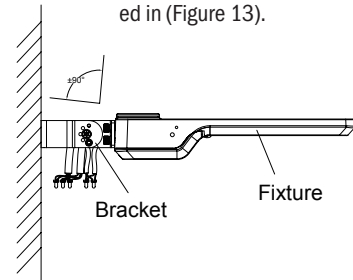

FIG.13
- 5 Attach the fixture to the bracket by tightening the screws. Once connected, ensure the wires are correctly joined and tuck them neatly into the junction box. Refer to (Figure 13)
Note: The fixture can be adjusted to angles ranging from 0 to 90°, as highlighted in (Figure 13).